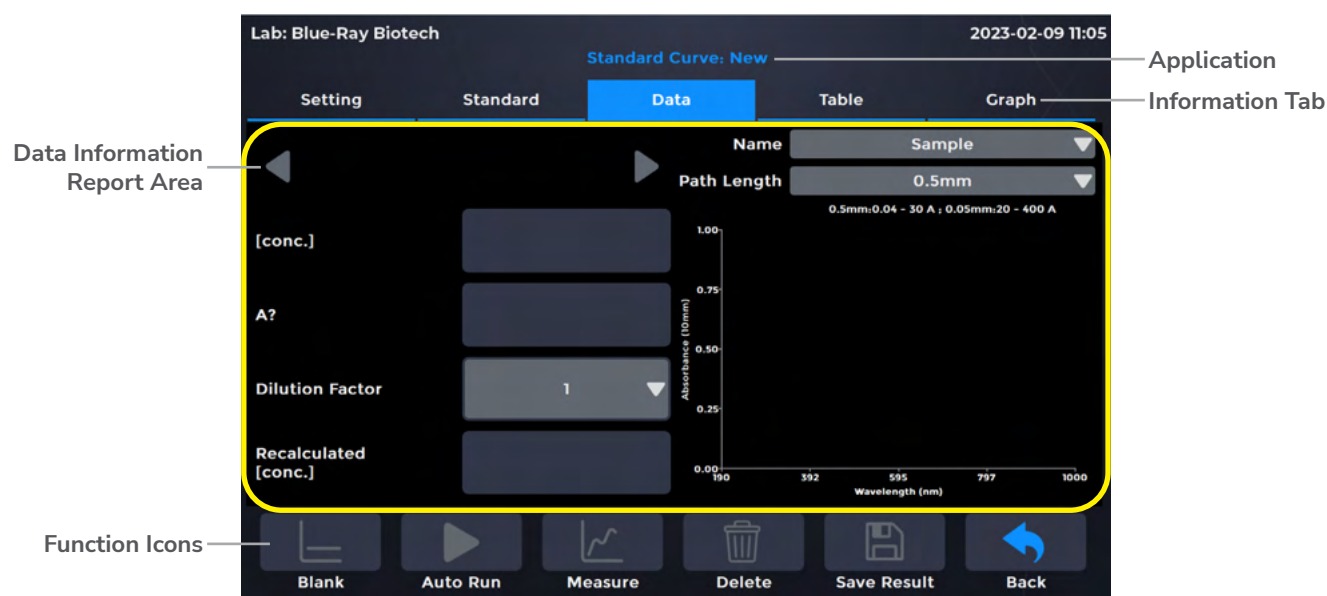

Figure 12. Application Screen
- Information Tab (Figure 12 & Table 6)